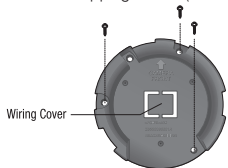

Figure-1
- 3) Place the separated ceiling bracket so that the "Front" side faces the area to be monitored and install it with the M4 tapping screws(see Figure-1).